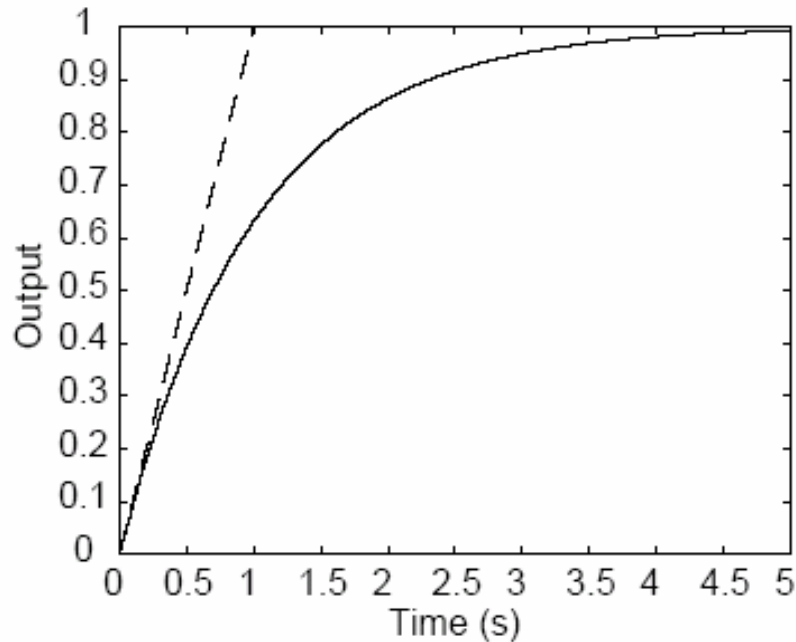

Figure 8.22: Step response of a first-order system
The step response of a system with transfer function $P(s) = 1/(s+1)$ is sketched in Fig. 8.22. On the graph, one finds that the tangent to the output at $t=0$ reaches the steady-state value of the step response for $t=T=1$ sec. It also turns out that, for $t=T$, the output reaches 63% of its final value ($1 - e^{-1} \approx 0.63$).
- These simple experiments should demonstrate the validity of the first-order model for the DC motor, as well as its limitations. Taking a close look at the step response around $t = 0$ should reveal that the response is not linear with respect to time, contrary to Fig. 8.22. A more detailed model of the DC motor would account for the inductance of the motor, and for the time that it takes for the current to change. A second-order model, rather than first-order, would result and would more accurately reflect the behavior of the motor. In practice however, any model, no matter how high order or how detailed it is, is only an approximation of the real system.